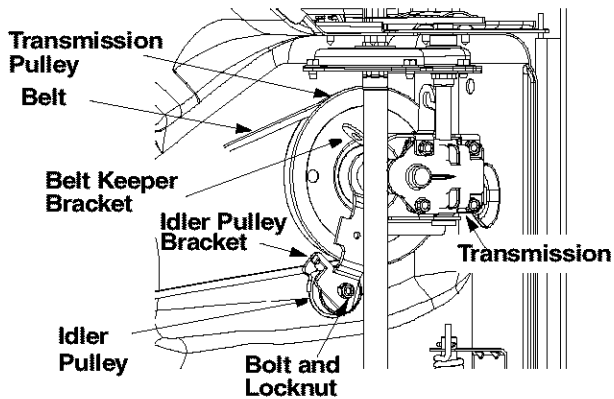

Figure 20
- Tilt the transmission forward and loosen the idler pulley bolt and lock nut half a turn. See Figure 20.
- Slide the belt out from between the belt keeper bracket and the idler pulley. See Figure 20.